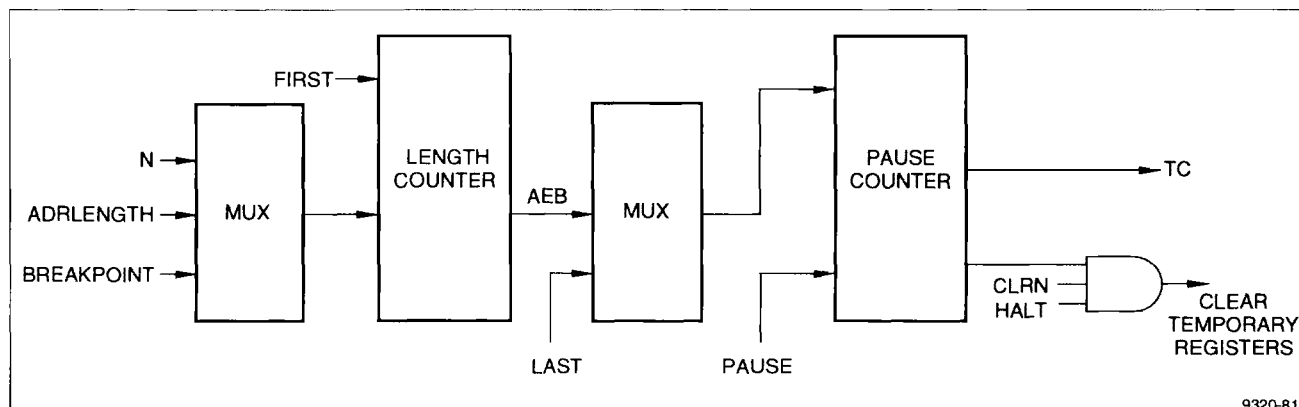

Figure 11. Terminal Count
The terminal count (TC) logic as shown in Figure 11 produces the TC signal which indicates when an address pattern has been completed. As a default, TC goes HIGH one cycle before the current addressing sequence ends. TC remains HIGH until the next START signal causes a valid address to be generated. The low-to-high transition of TC can be delayed by one cycle (to actual end of sequence) by setting bit 3 of the MODE register to HIGH. Refer to *MODE Register* for additional information.